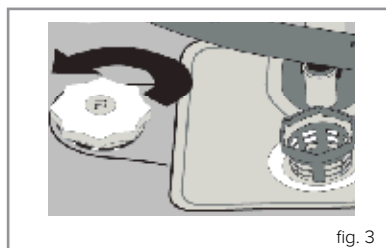

fig. 3
1. Remove the lower dishwasher basket and then unscrew the salt compartment cap, as shown in figure 3.